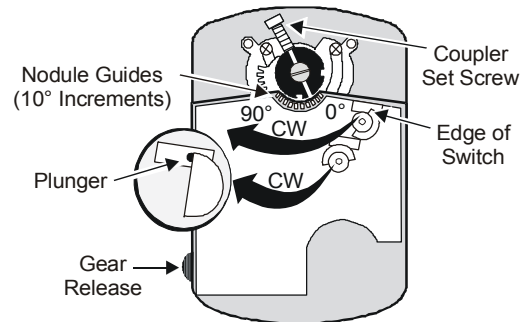

Figure 12: Switch Angle Settings
To change the angle of Switch S1 to 20°, refer to Figure 12 and proceed as follows:
2. Rotate Switch S1 CW, and align the edge of the switch with the plunger until the plunger rises. (See Figure 12.)
To change the angle of Switch S2 to 70°, refer to Figure 12 and proceed as follows:
2. Rotate Switch S2 CW, and align the edge of the switch with the plunger until the plunger rises. (See Figure 12.)